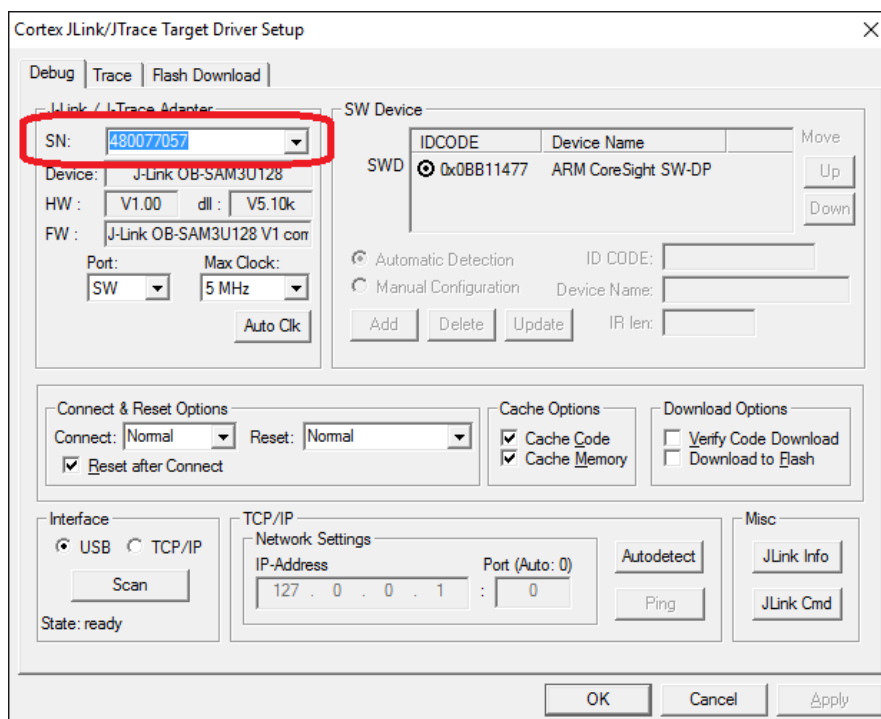

Figure 7 – Keil Flash Tools Debug Settings Window
- In the 'Debug' tab of the same 'Options for Target' window, select 'J-LINK/J-TRACE Cortex' from the upper right hand drop down menu then click 'Settings.' The same 9 digit serial number from the nRFgo program should be in the 'SN' field to acknowledge Keil sees the Evaluation Board (see figures 7 and 8).